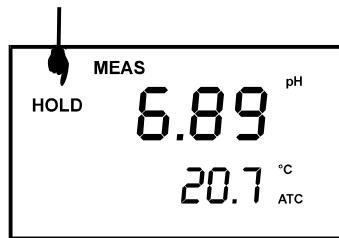

Figure 16 - HOLD feature
1. To hold a measurement, press the HOLD key while in measurement mode. "HOLD" will appear on the display. See Figure 16.